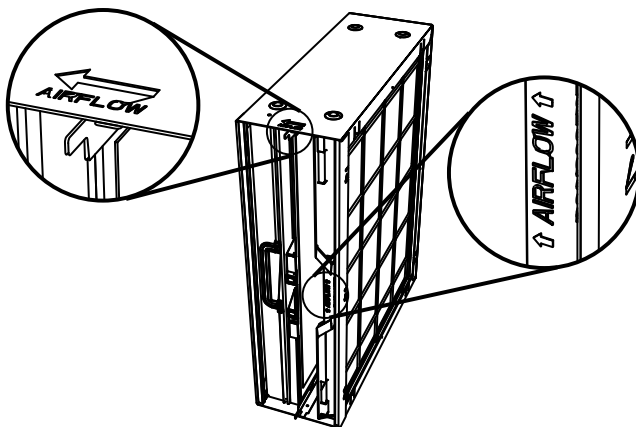

Figure 35 Airflow Direction
1. Replace the PRE-FILTER into the air cleaner. Ensure that the "AIRFLOW indicator arrow" on the PREFILTER is pointing in the same direction as the "AIRFLOW indicator arrow" on the air cleaner cabinet as shown in Figure 35.